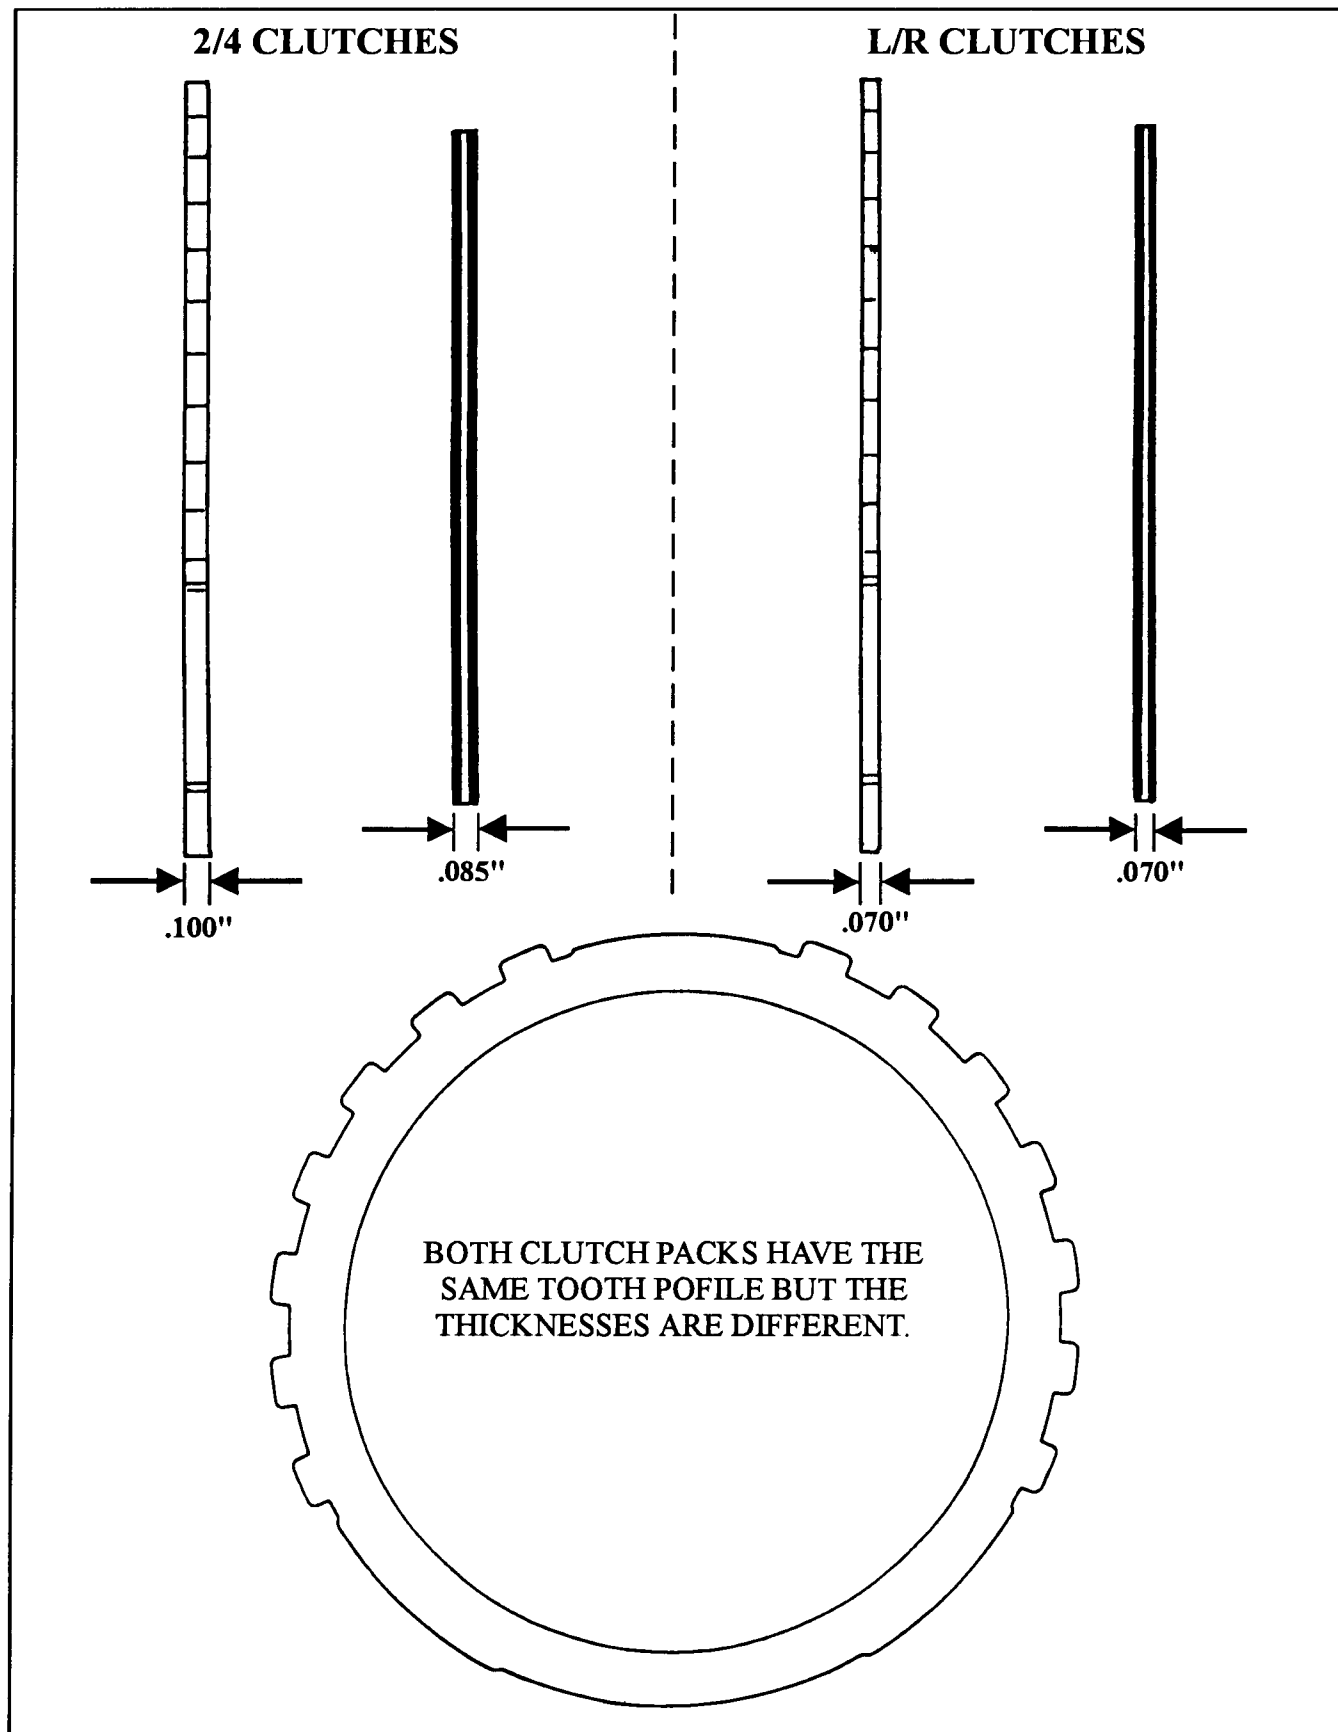

Figure 67
- (1) Both clutch packs, on the steel plates, have the same tooth profile, but the thicknesses are different (See Figure 67).
- (2) Both clutch packs, on the lined plates, have the same tooth count and the same lining, but the thicknesses are different (See Figure 67).